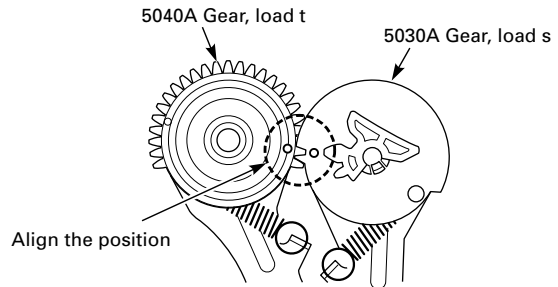
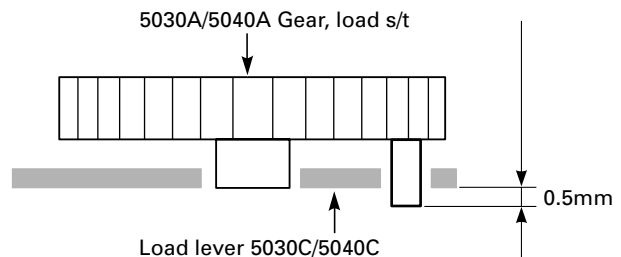

Fig. 8.26
Fig. 8.27
**Note:** Reassemble the load gears (Pos. 5030A and 5040A) in the position shown in Fig. 8.26. When fitting the load gears (Pos. 5030A and 5040A) and the load springs (Pos. 5030B and 5040B) make sure that the spring hooks of the load gears (Pos. 5030A and 5040A) protrude 0.5mm from the plates of the load levers (Pos. 5030C and 5040C, Fig. 8.27).